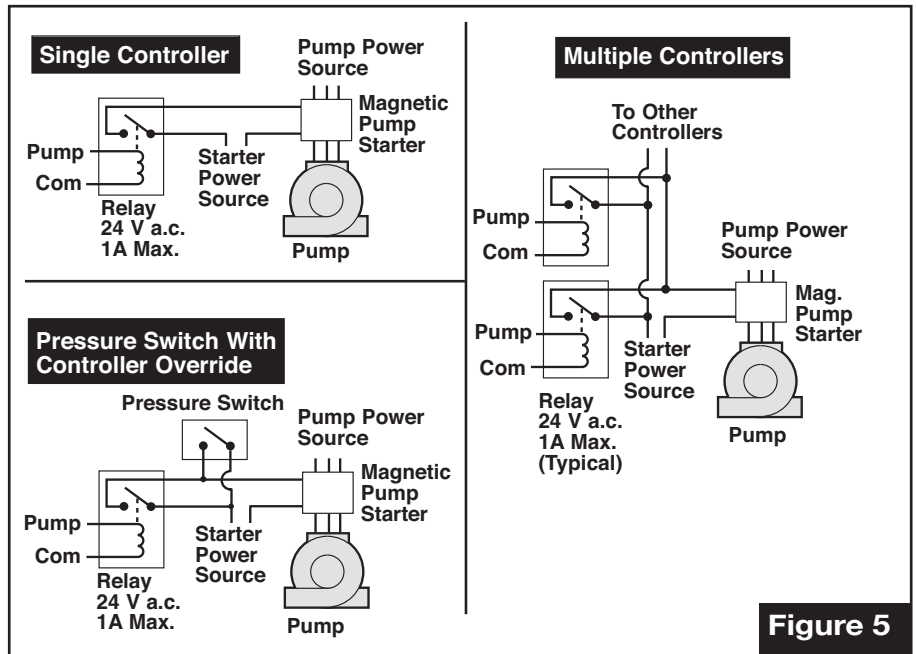

Figure 5
2. If an automatic pump start is required, refer to the applicable wiring diagram in **Figure 5** and install accordingly.